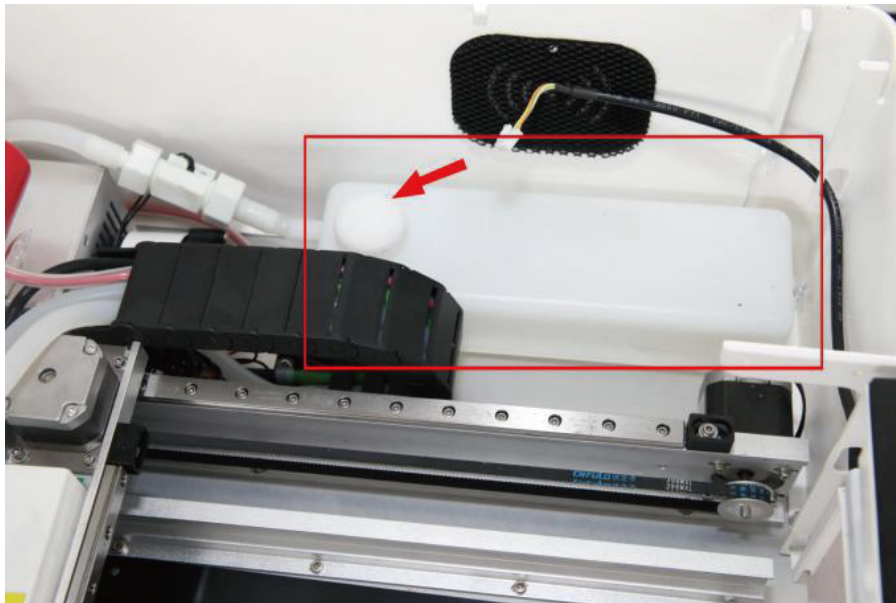

Figure 24
② Evacuate the water in the water tank (Figure 24)